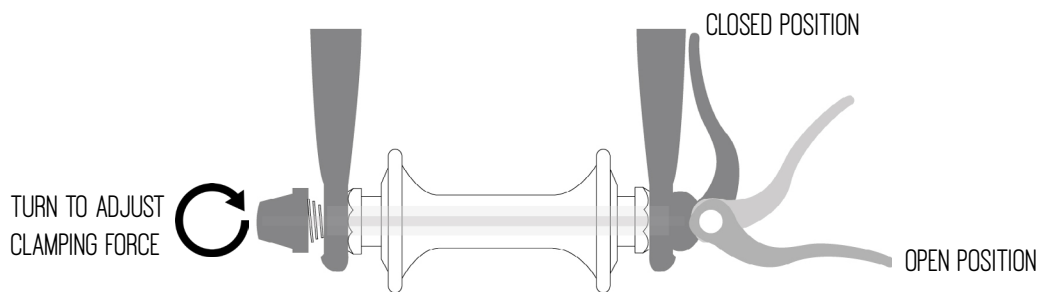

Figure 10
It is the power of the cam that maintains the wheel in place. It squeezes the wheel hub in between the fork arm ends or dropouts when switching the lever from the opened to the closed position. The tightening force depends on the torque applied on the adjusting nut. To increase the tightening force, you need to turn the adjusting nut clockwise while holding the lever with the other hand. To reduce it, turn the adjusting nut counterclockwise again holding the lever. Less than half a turn can make the difference between a safe and an unsafe tightening. The mechanism should emboss the dropout-ends when closed in the locked position. Refer to Figure 10.
- *Turn the quick release lever into the opened position as shown on Figure 10;*
- Turn the quick release lever to the opened position as illustrated in Figure 10
Turn the quick release lever to the opened position, referring to figure 10. Place the wheel with the quick release positioned on the rear derailleur's opposite side;